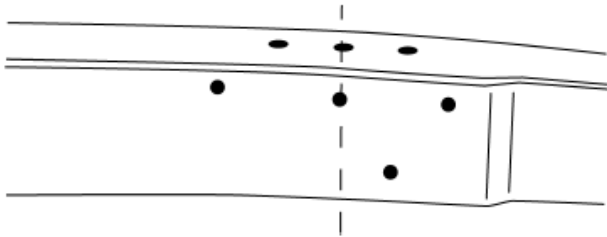

Figure 3- Axle Centerline
- 5.) Using the center rivet hole from the old crossmember or the rear top hole from the fender bracket, mark a line around the outside of the frame rail. This is your axle centerline. (See **Figure 3**.)